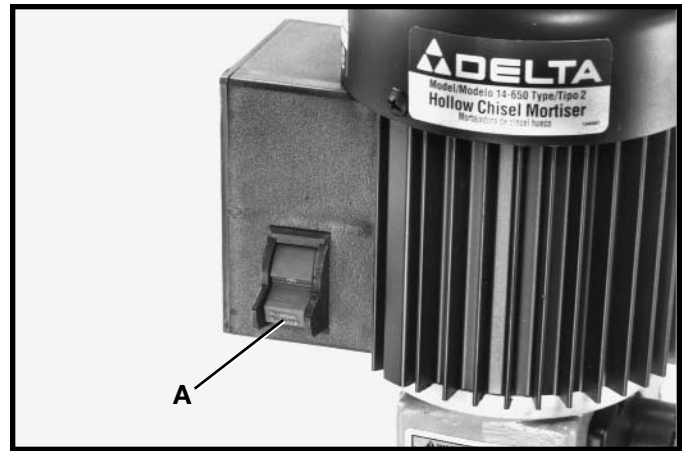

Fig. 26
The switch (A) Fig. 26, is located on the side of the motor. To start the mortiser, move the switch (A) to the up position. To turn the mortiser “OFF” move the switch to the down position